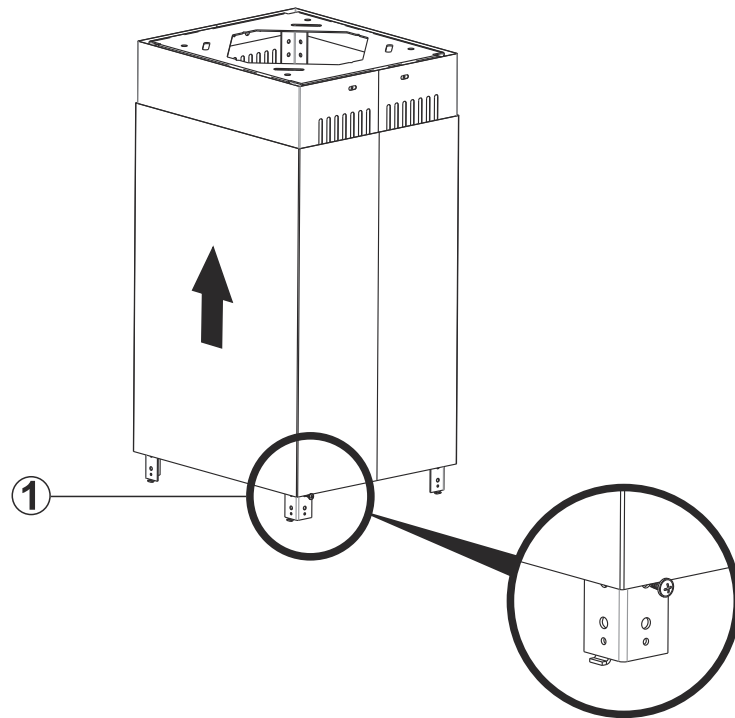

Fig. 12
1. ➔ Match sheet metal flues of the product to product hanging bars (Fig. 12).
2. ➔ Install 3.5 x 9.5 screw (1) to product hanging bar and leave sheet metal flues on the screw for sheet metal flues to remain fixed on hanging bars before installation (Fig. 12).
1. ➔ Remove the sheet metal flue fixing screw (Fig. 12).